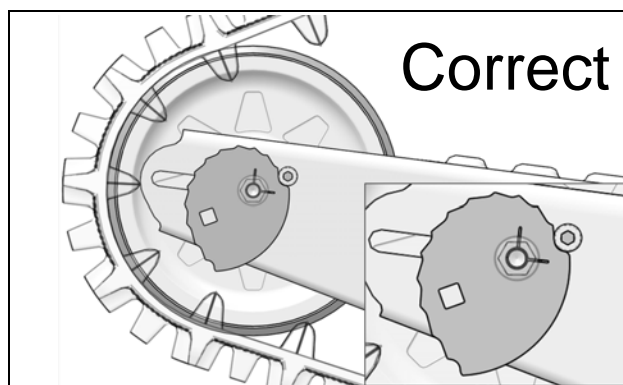
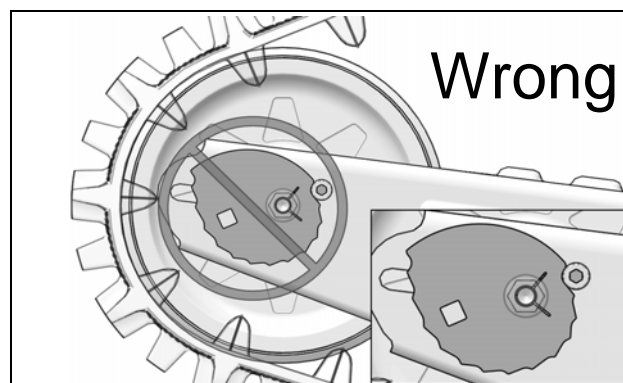

Figure 29
Figure 30
- Installation direction of Tensioner cams. Figure 29 and Figure 30.